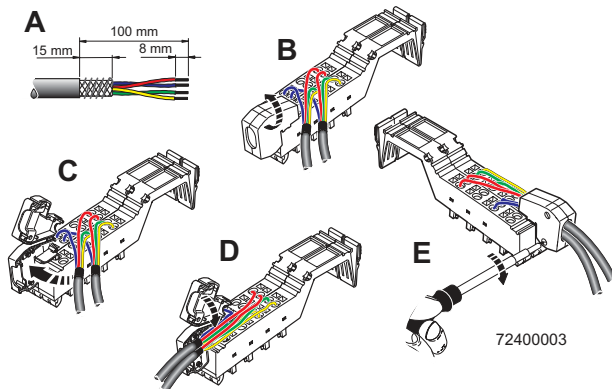

Figure 3 Example: Wiring of the IB IL 24 FLM-PAC and IB IL 24 SEG/F-D-PAC terminals
### Stripping the Outer Cable Sheath and Cables (Figure 3, Detail A)
- Open the shield connection (Figure 3, detail B).
- Insert the cable (Figure 3, detail C).
- Close the shield connection (Figure 3, detail D).
- Tighten the screws on the shield connection with a screwdriver (Figure 3, detail E).